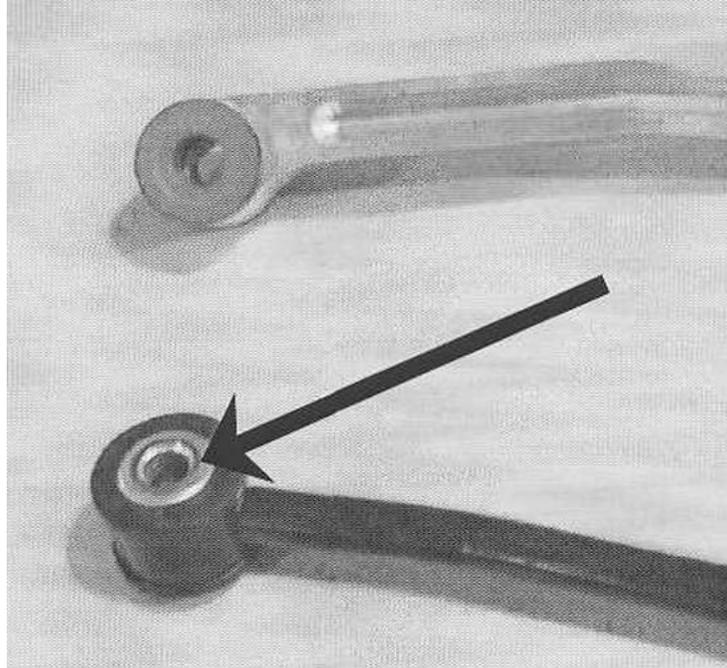

Figure 8
11. Place factory shifter on workbench and remove the (2) metal-flanged sleeves from the front rubber bushings located in the shifter assembly arm. Install in the shifter arm of the ROUSH Shifter (Refer to Figures 8 and 9).